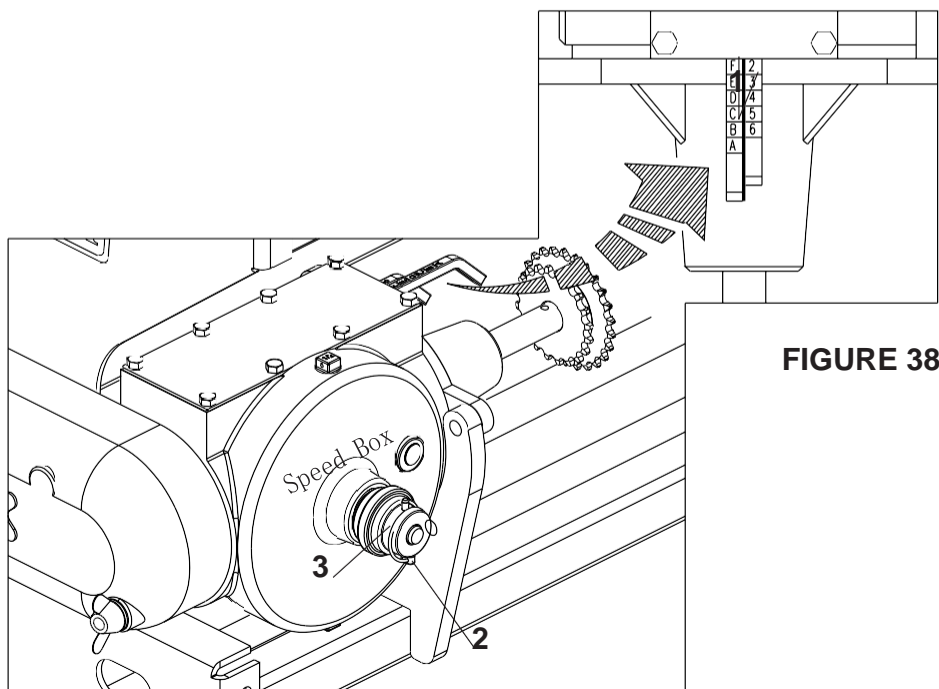

FIGURE 38
SPEED BOX (FIGURE 38)
- 2 - For settings of fertiliser, select the desired amount in the tables and check the corresponding combination of cursors (1). Example: position **F 2** indicates that the cursor with letters must be in position "**F**" and the cursor with numbers must be in position "**2**", according to **FIGURE 38**.
- 3 - To move the cursor, remove the lock (2), pull the handle (3), then set them. At the end of the combination, return the knob (3) and replace the lock (2).